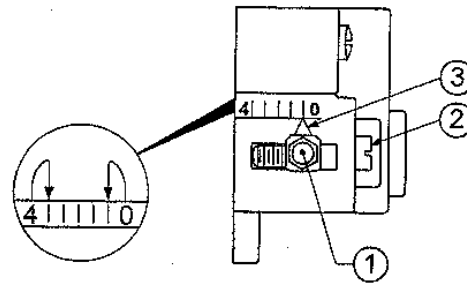

Figure 19: Riello Turbulator Setting
- f. **Turbulator Setting**, refer to Figure 19 and Riello Burner Specifications Table 7.
Move the setting forward or back one position at a time to optimize the smoke and CO_2 readings. See Figure 19.